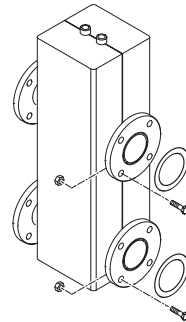

Fig. 8
1.13 CODE 8101552 MURELLE EQUIPE 220-330 (to be requested separately) (fig. 8)